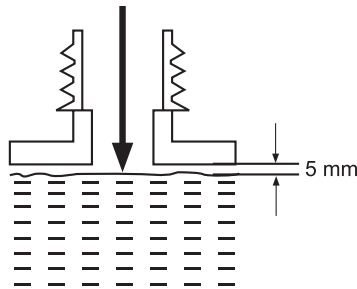

Fig. 12
1. Set the product on any suitable surface with the oil tank cap (14) facing upwards.
2. Unscrew and remove the oil tank cap (14), then add the lubricant into the tank. We recommend using environmentally-friendly chain oil specifically intended to be used with this product. Use a proper funnel with a filter to prevent debris entering the tank and to avoid spilling and overfilling the tank. Do not overfill and leave approximately 5 mm of space to the lower edge to allow the lubricant to expand (Fig. 12).